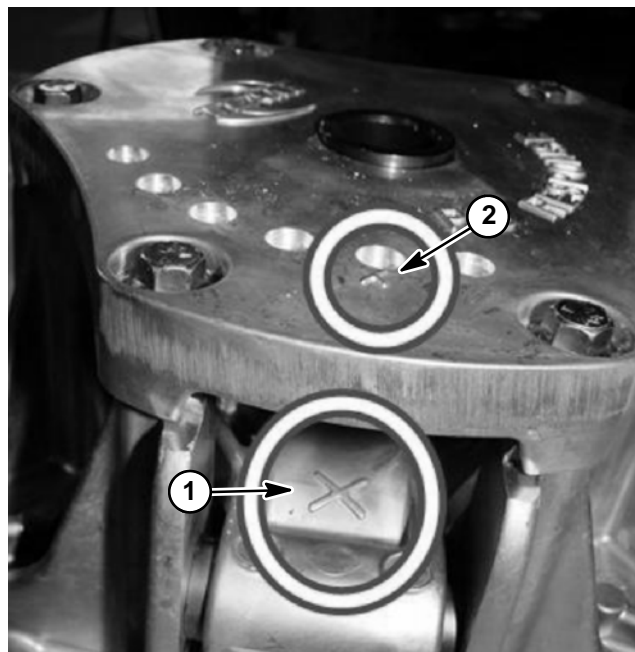

Figure 12
1. Make note of the "X" mark cast into the cover and spider before clutch disassembly (Fig. 12). These marks must be aligned during assembly for proper clutch operation.